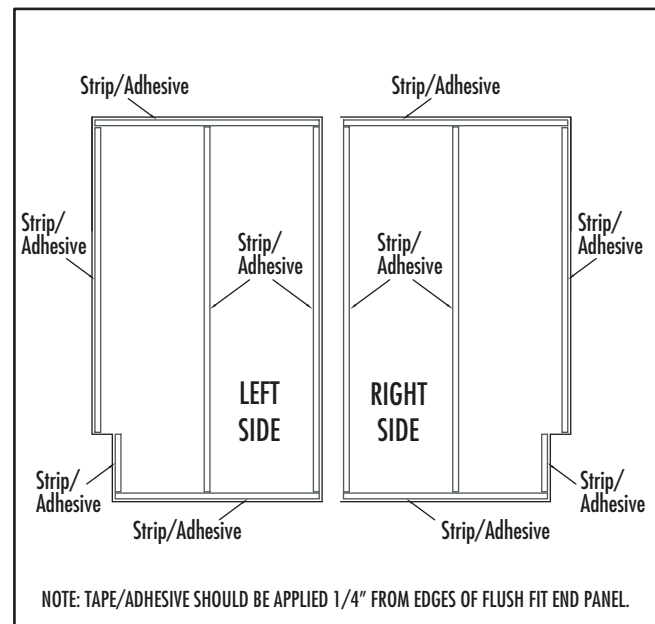

Figure 2
**1.** Cut and apply double sided tape to flush fit end panel or use construction adhesive (Figure 2). If using construction adhesive, use tape guidelines as glue guideline and then move to Step #2.